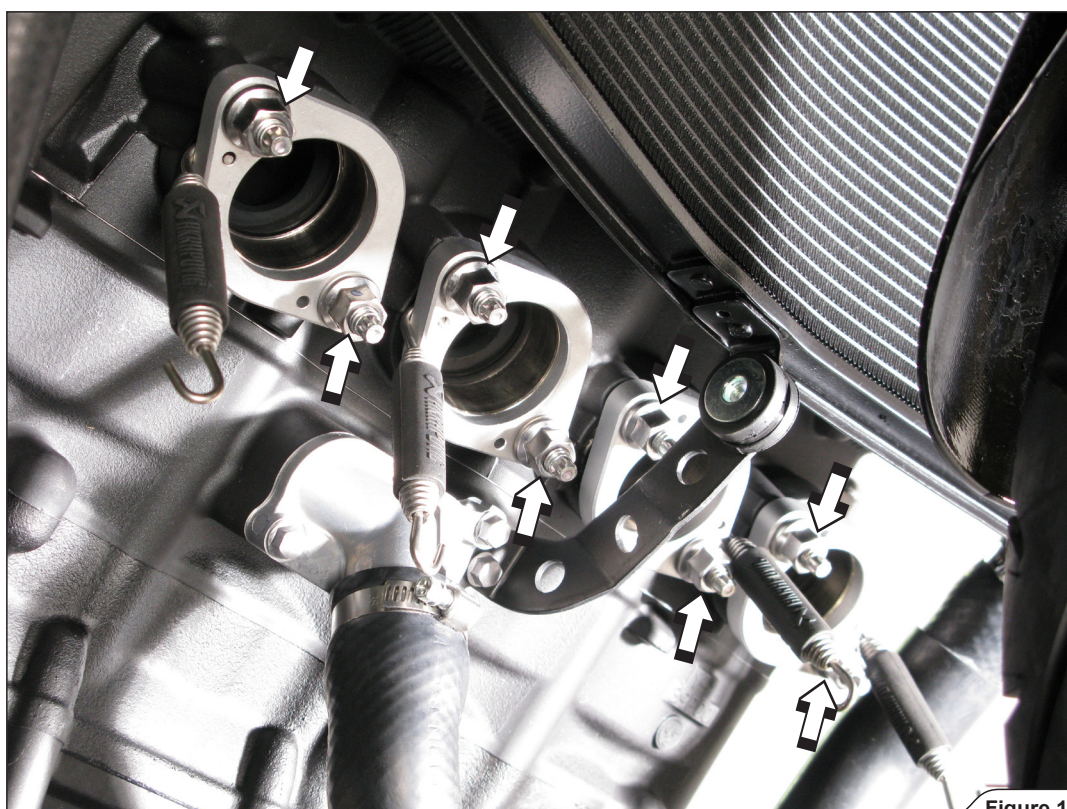

Figure 10
2. **For Akrapovič Racing only:** hand tighten the assembled sleeves, flanges and springs onto the motorcycle (Figure 10).